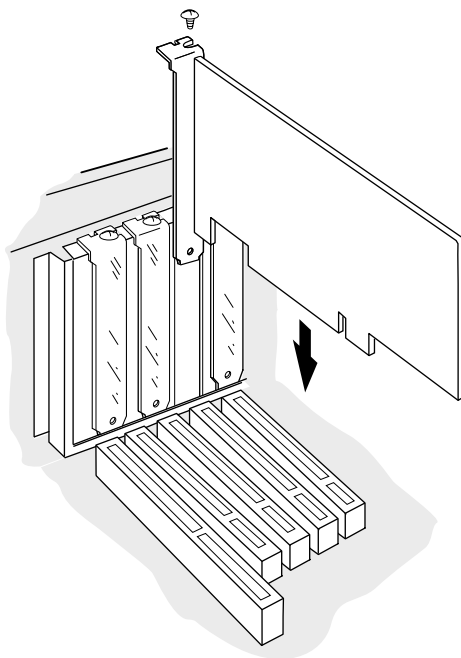

Figure 3-2. Inserting the Adapter into the Socket
- 6 Align the adapter with the PCI expansion slot, and insert the adapter firmly into the socket, as shown in Figure 3-2.